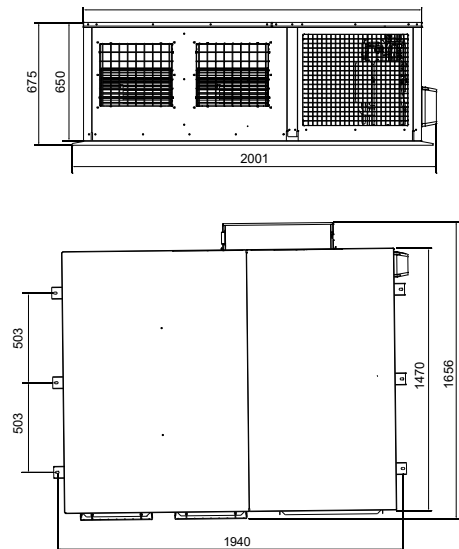

Fig. 3-2 Dimension of Air-conditioning Unit
2. Fig.3-2 is applicable for 22.4kW unit